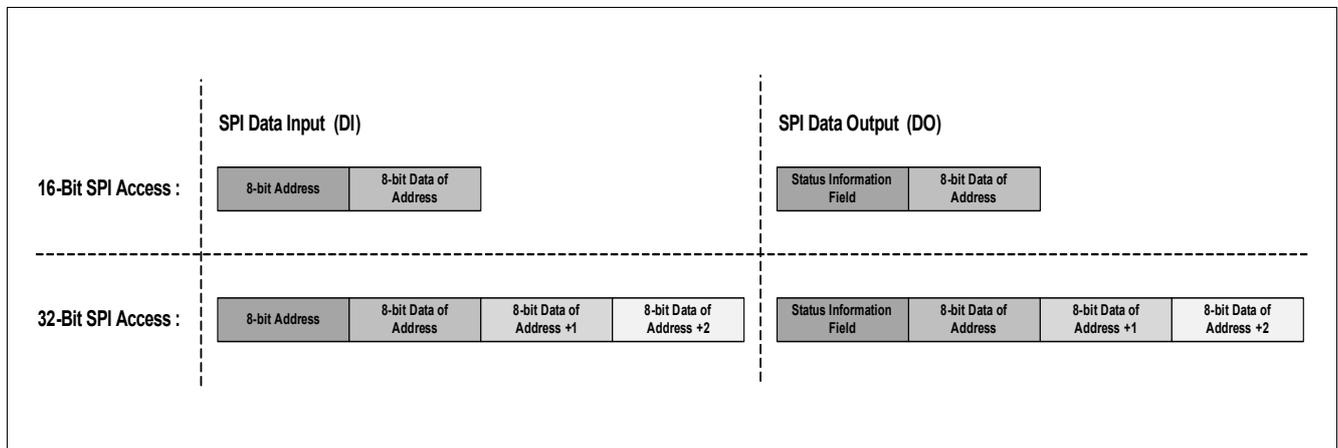

Figure 46 Data access for 16- and 32-bit SPI commands
The TLE9461-3ES is supporting multi-slave operation in full-duplex mode with 16-bit and 32-bit data access (see also Figure 46).
The operation of the 16-bit and 32-bit SPI data access is shown in Figure 46.
- The numbering of following bit definitions refers to the data byte and correspond to the bits D0...D7 and to the SPI bits 8...15. In case of 32-bit SPI commands, the data bytes from the next valid address are accessed (see also Figure 46).